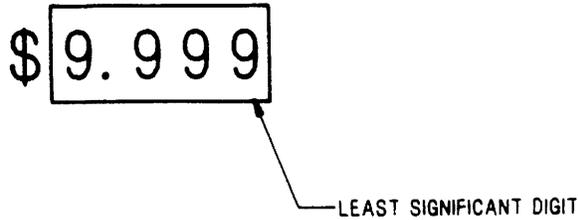

FIGURE 2-6. UNIT PRICE DISPLAY
- Press and hold in the Price Jog pushbutton, which will cause the least significant digit or tenths of cents position of the Unit Price to cycle (Figure 2-6).